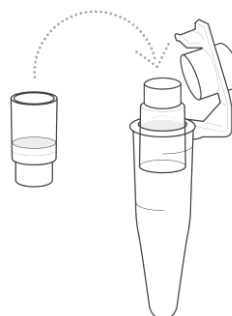

Figure 3
11. Discard the 1.5 ml Tube and place a new 1.5 ml Tube (provided) over the top of the DNApure Column. Turn the assembled device upside down (Figure 3) and place in centrifuge, aligning open cap towards the centre of the rotor, counterbalance with a similar device and centrifuge for 3 minutes at  $1000 \times g$ .